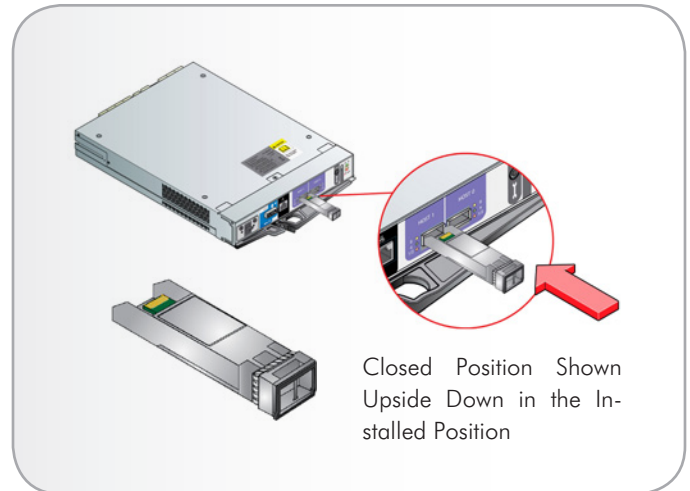

Fig. 48 - Installing the SFP Transceivers - RAID Controller Shown in Installed Position
2. Insert the SFP Transceiver into the SFP cage and push to seat it. Ensure the ejector is positioned to its stored location (Fig. 48).